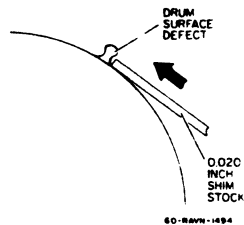

Figure 10. Removing the Drum Surface Defect
- b. Remove surface defect by gently breaking off with 0.020 shim stock, as shown (Figure 10).